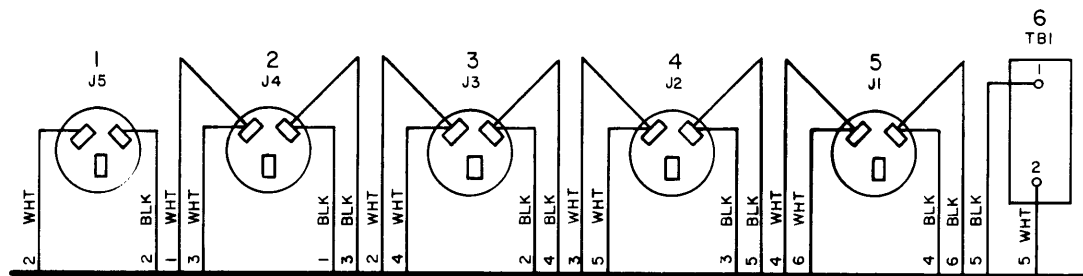

Figure II-7-4-7. Wiring Diagram, APP-1
e. AUXILIARY POWER PANEL APP-1 (See figure II-7-4-7). - The auxiliary power panel contains four polarized convenience outlets, mounted on the front panel. An U-shaped bracket, mounted on the rear of the front panel houses a fifth polarized convenience outlet.